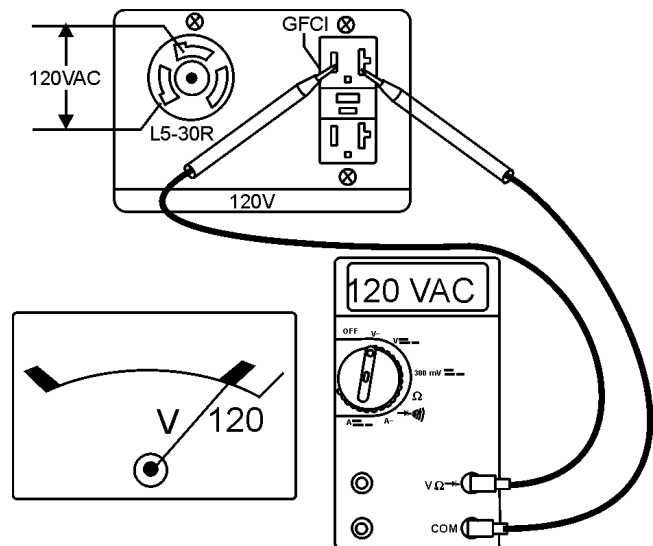

Figure 21. 120V/GFCI Receptacles
- Read voltmeter on front panel of generator (Figure 21) and verify that 120 VAC is displayed. Using an external voltmeter as shown in Figure 21, verify that 120 VAC is present at the 120V twist-lock and GFCI duplex receptacles.